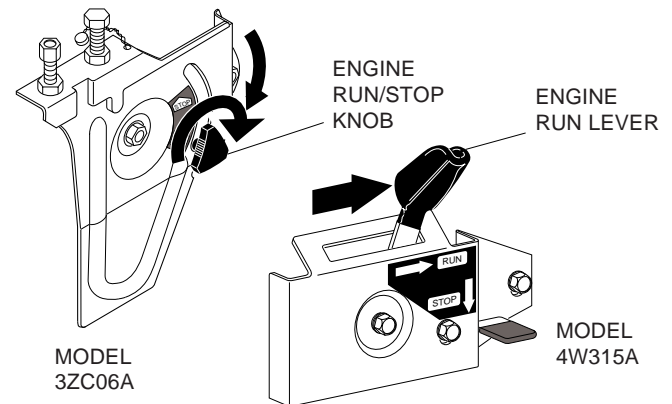

Figure 16 - Engine Run/Stop Knob (Model 3ZC06A) and Engine Run Lever (Model 4W315A)
3. For Model 3ZC06A: Push engine run/stop knob down to the RUN position (see Figure 16). Turn engine run/stop knob clockwise to tighten. Tighten firmly.
For Model 4W315A: Move engine run lever to the RUN position (see Figure 16).